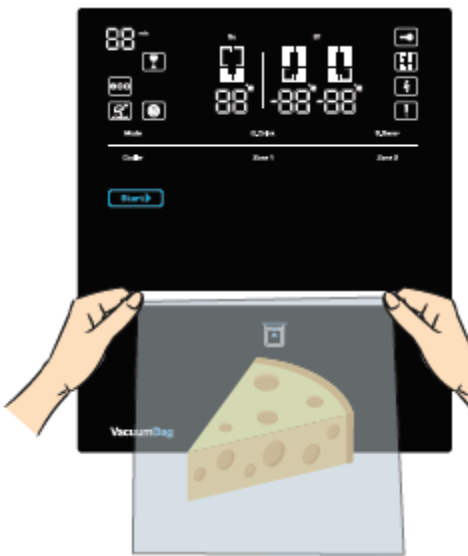

Figure-1
1. The food to be kept is placed on one side ragged vacuum bag. (Figure-1)